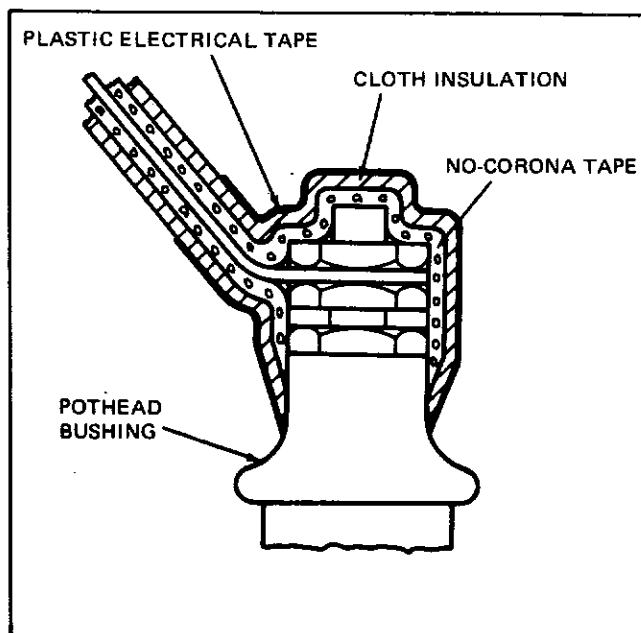

Figure 61. Insulating Pothead Bushing
1. Wrap approximately two feet (610 mm) of no-corona tape over bolt heads to form a smooth surface. See Figure 61.